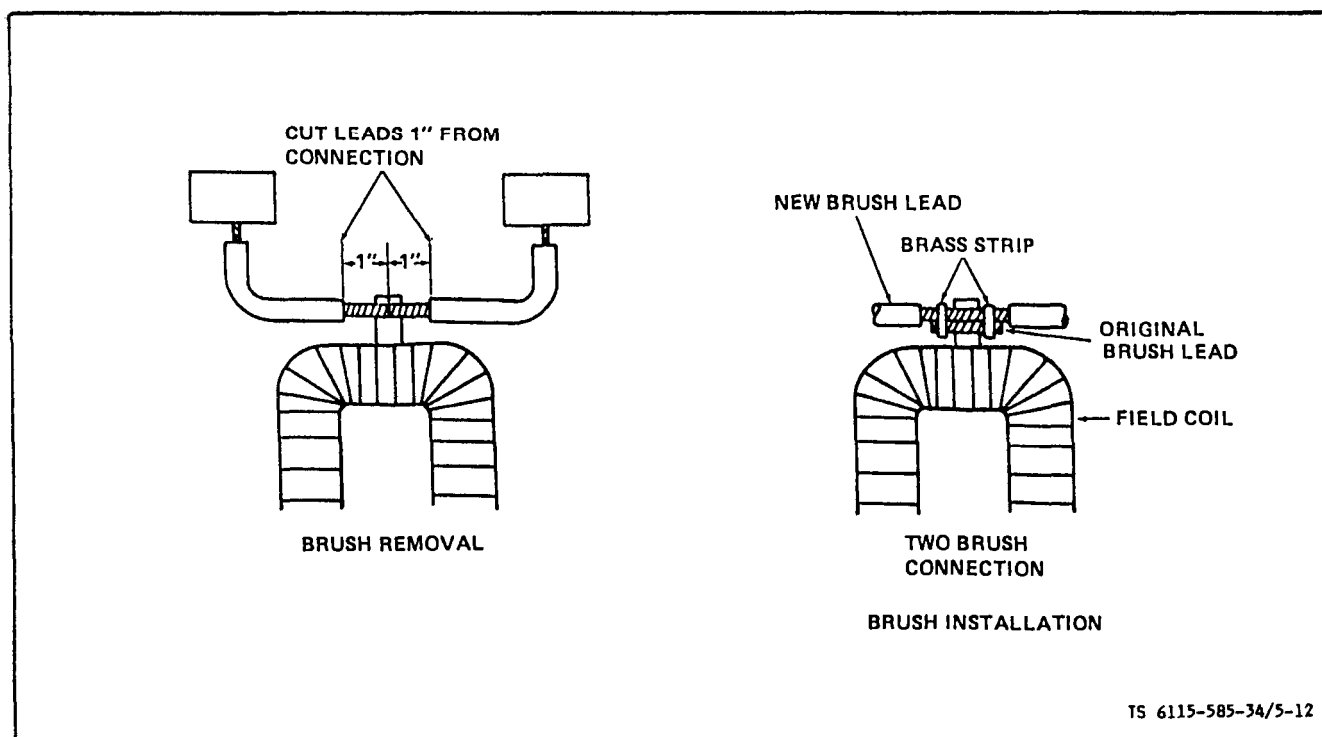

Figure 5-12. Brush Replacement STYLE I Starter Only
(1) Soak sleeve bearing (36) in SAE 10 oil for 15 minutes before assembly of stater.
(2) Press bearing (36) into pinion housing (28).
(3) Slide drive assembly (35) onto the armature shaft. Slide stop and position lock ring (34) in its groove on the armature shaft. Pull step over lock ring. A bearing puller tool may be required.
(4) Install thrust washer (27) on the end of the armature shaft. Slip yoke (32) onto the drive assembly (35) and install both in pinion housing (28). Install pin (31) in pinion housing to hold yoke (32) in place.
(5) When brushes (26) are excessively worn, cut each brush lead 1 inch from the welded connection (see figure 5-12). Install new brush as follows:
(b) Position the new brush lead next to the tinned section of the original brush lead. Install and crimp the brass strip connectors (that are supplied with new brush) around both leads to hold the brush in place. See figure 5-12.